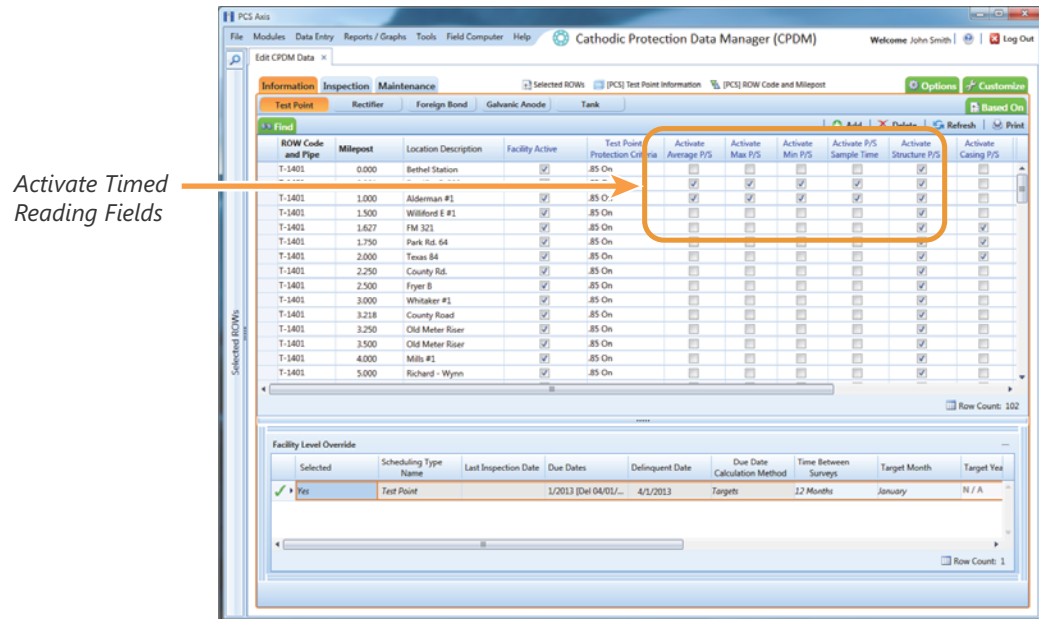

Figure 7-15. Test Point Information Data Entry Grid
- 11 In each column labeled with an “activate” timed reading field, click the check box associated with the facility you plan to record Allegro timed readings (Figure 7-15).